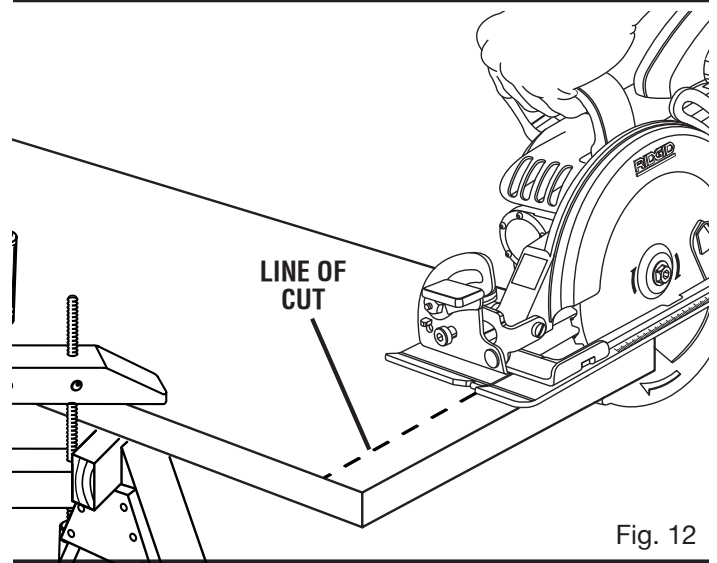

Fig. 12
- Clamp the workpiece securely so that the workpiece will not move during the cut. See Figure 12.